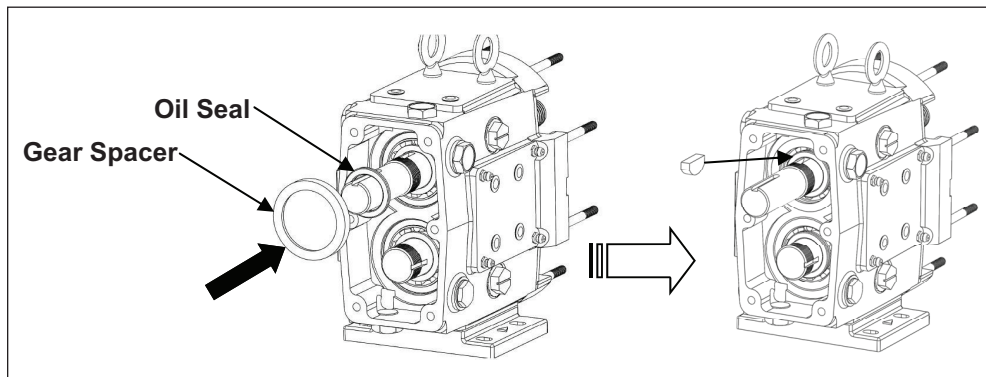

Figure 43. Rear Oil Seal and Gear Key Installation
7. Apply a light film of lubricant to the inside and outside diameters of the rear oil seals and install them into the back of the gear case with the spring side facing outward toward the gear. Install the gear spacers onto the shaft and place the gear keys into the shaft key slots (Figure 43).